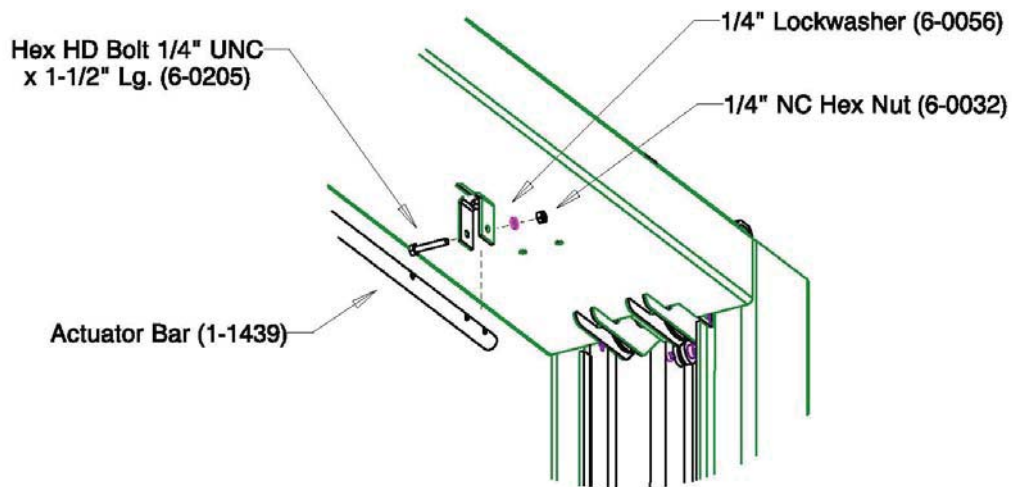

Figure 8: Actuator Bar Installation
**Note:** The safety shut off will disconnect the power to the power pack when an obstruction touches the padded bar or the carriages reach their maximum height. The safety shut off switch is factory pre-wired. Refer to Figure 8.
2. Attach the Actuator Bar to the Actuator Mounting Bracket using one (1) 1/4" NC x 1 1/2" lg. hex head bolt, one (1) 1/4" lockwasher, and one (1) 1/4" NC hex nut. Orient the Actuator Bar so that the last hole (out of the set of 3) is used when mounting. (Figure 8)